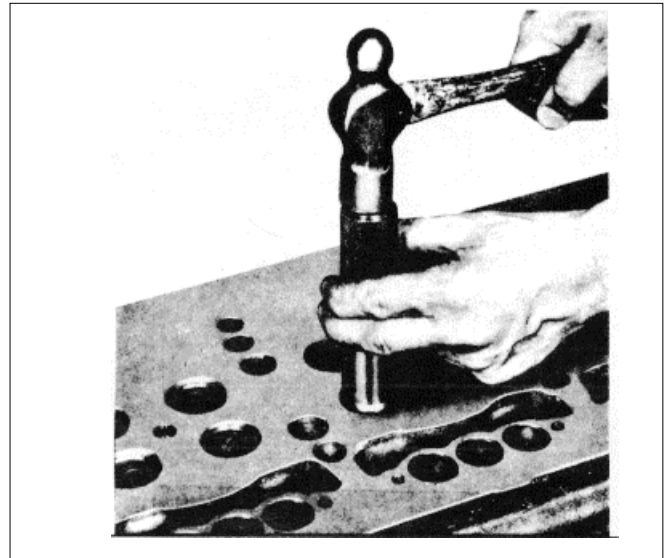

Fig.14
- (4) Rest the cylinder head, bottom side up, on a bench and place an insert in the counterbore valve seat side up. Install the insert in the cylinder head while the head is still hot and the insert is at room temperature, otherwise installation will be difficult and the parts may be damaged.
- (5) Drive the insert in place with installer J 24357 as shown in Fig.14 until it seats solidly in the cylinder head.
- (6) Check the valve seat inserts for concentricity in relation to the valve guides as outlined below.